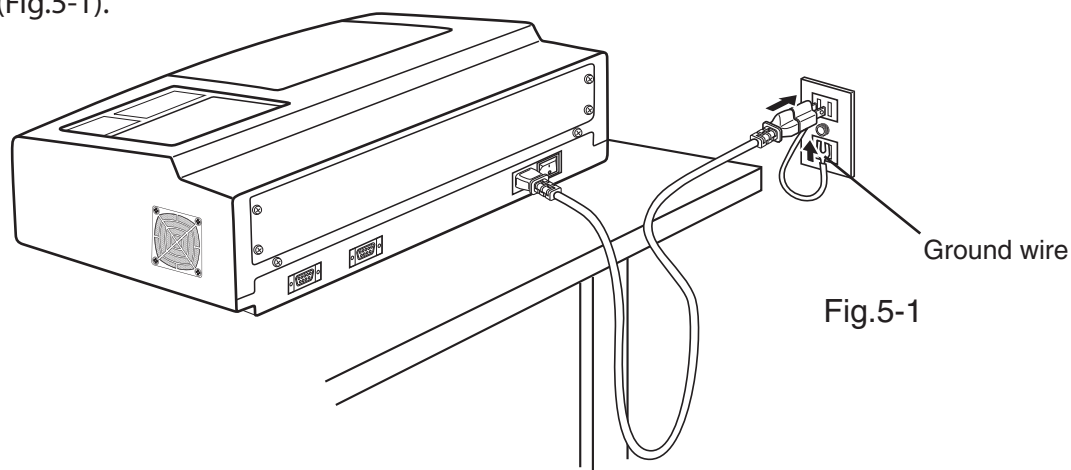

Fig.5-1
a) Plug the AC power cable into an indoor AC100 to 240V power outlet. At this time, be sure to connect the ground wire (Fig.5-1).